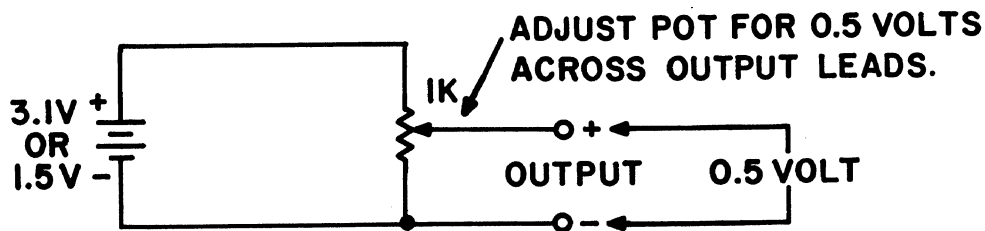

FIGURE 2
1. Connect a 1000-ohm potentiometer across the 3.1 volt dry cell battery (or any reasonably low voltage DC source) as shown in Figure 2. Set the wiper arm so that exactly .5 volt exists between the negative side of the battery and the wiper arm of the potentiometer.
4. The meter should indicate .5 volt. If not, adjust R27 (see Figure 2) until it does.